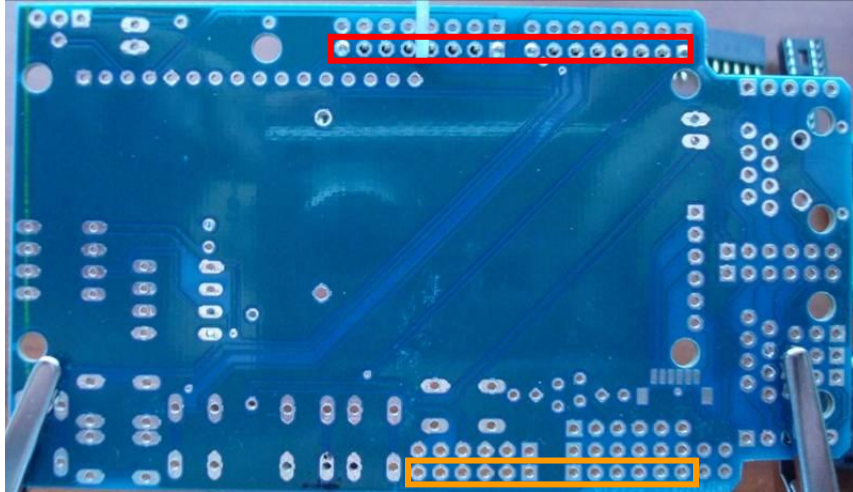

Fig. 10-1 Top side of PCB. Use a clip (top) to secure male pins.
5. Identify the front side with Fig. 10-1 (button pads on bottom left).
6. If you received a later version of 20X4 LCD shield, you may skip 6 and 7 and solder female stacking headers with long pins in step 9. Male headers are the lower rows among the rows of holes. They need to be soldered below the board since they will plug into the Arduino female headers. Secure two top rows of 8-pin headers with clip or tape (red rectangles in fig. 10-1). Solder the first and the last pin to secure it. Remove clip or tape and solder the rest of the pins.